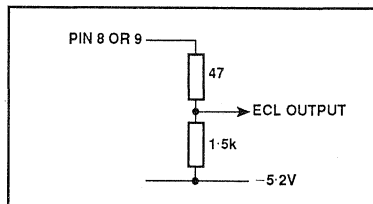

Fig. 8 Interfacing to ECL10K
2. The outputs are compatible with ECLII but can be interfaced to ECL10K as shown in Fig.8.